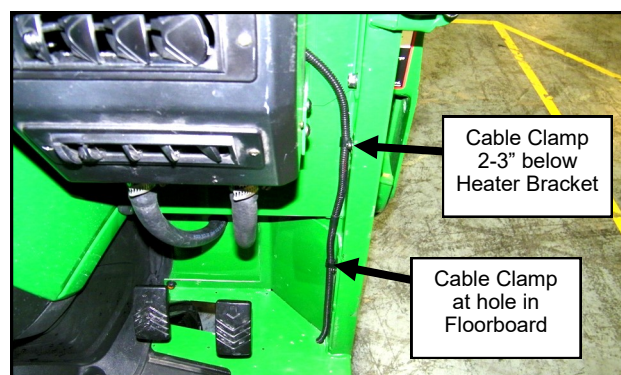

Fig. 20.5 (Secure Wires to A-Pillar)
- 20.5** Secure the wiring harness to the A-pillar with cable clamps and self-drilling screws. See figure 20.5. Clean up metal shavings afterward.